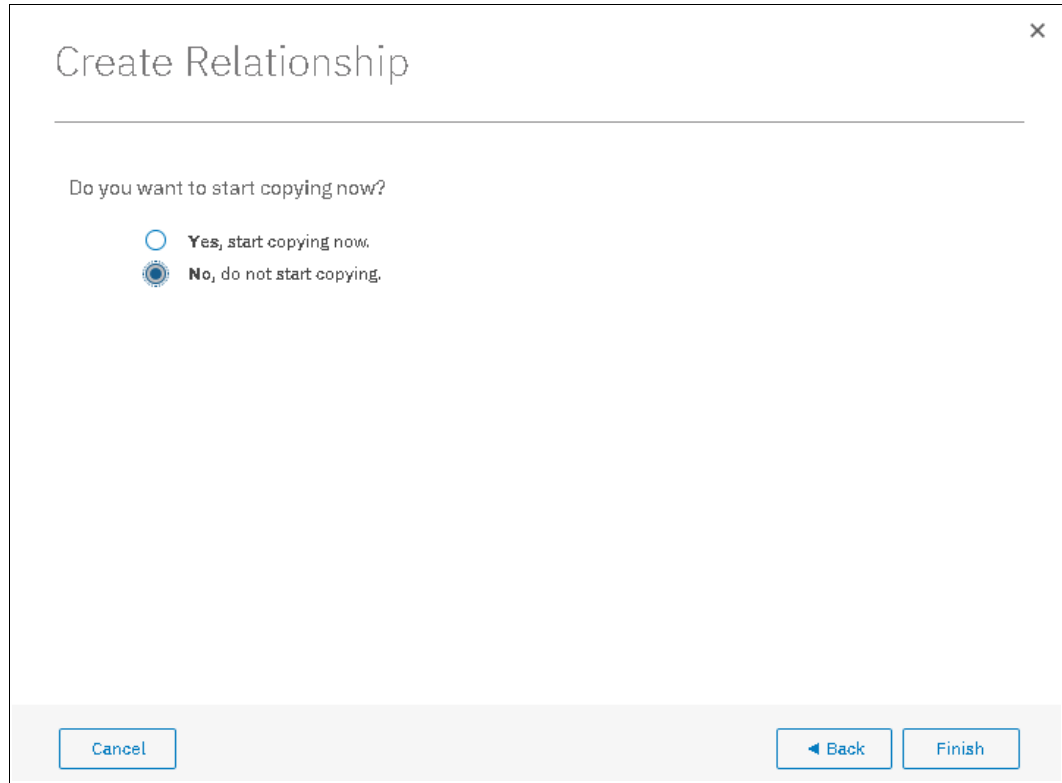

Figure 10-95 Select start copy option
11. In the next window, select whether you want to start to copy the data and click **Finish**, as shown in Figure 10-95.